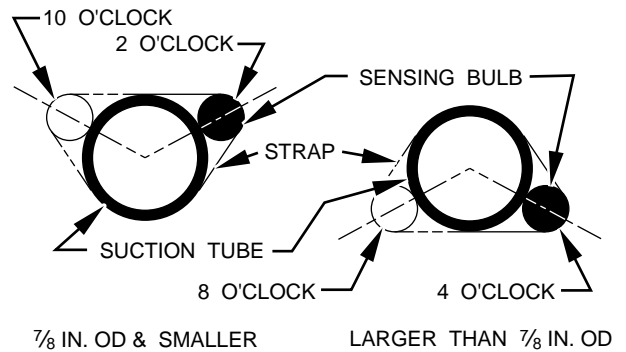

Fig. 5—Positioning of Sensing Bulb
5. Insulate bulb after installation. (See Fig. 5.)